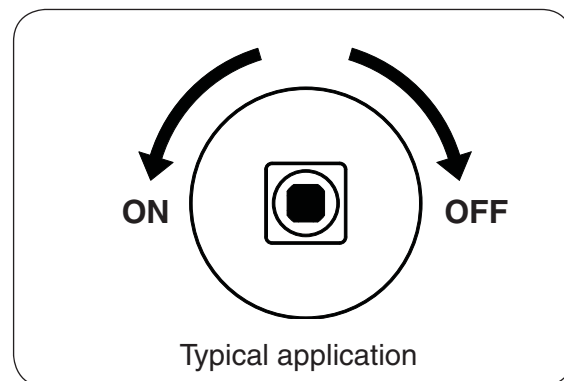

Fig. 13-2
4. **Once the match is burning and in position**, slowly turn the key valve counter-clockwise toward the **ON** position until it no longer rotates (see Fig. 13-2). Your burner should light.
To extinguish your gas burner, turn the key valve clockwise toward the **OFF** position until it no longer rotates (see Fig. 13-2). Be sure the key valve is turned fully off to avoid any gas leakage.